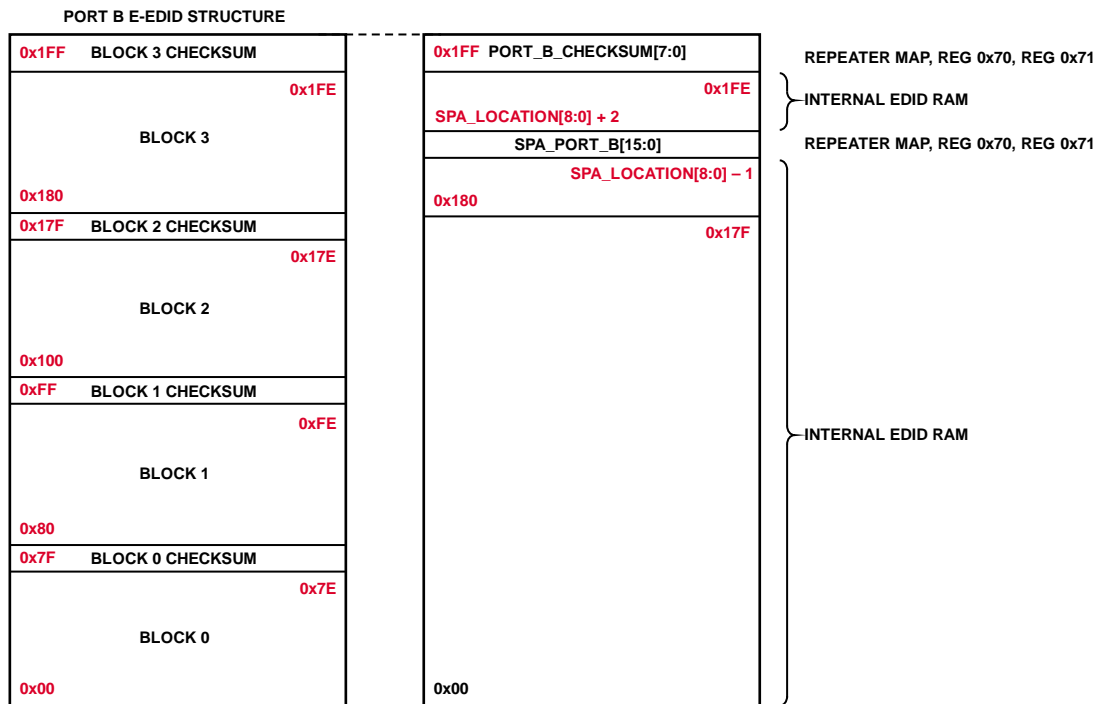

Figure 7. Port B E-EDID Structure and Mapping for SPA Located in E-EDID Block 3
- Figure 7—SPA located in E-EDID Block 3